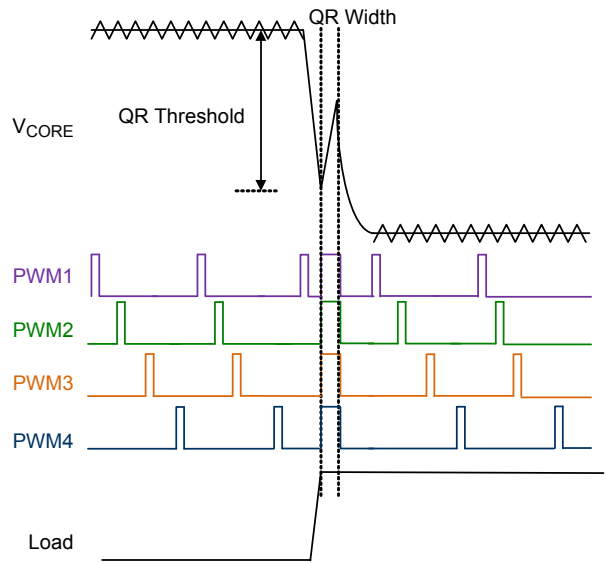
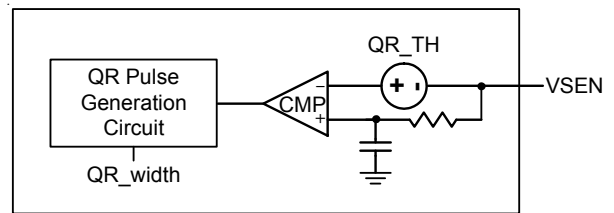

Figure 21. Quick Response Mechanism
Figure 22. Simplified QR Trigger Schematic
**Quick Response (QR) Mechanism**
When the transient load step-up becomes quite large, it is difficult for loop response to meet the energy transfer. Hence, that output voltage generate undershoot to fail specification. The RT3607CE has Quick Response (QR) mechanism being able to improve this issue. It adopts a nonlinear control mechanism which can disable interleaving function and simultaneously turn on all UGATE one pulse at instantaneous step-up transient load to restrain the output voltage drooping. Figure 21 shows the QR behavior.
The output voltage signal behavior needs to be detected so that QR mechanism can be triggered. The output voltage signal is via a remote sense line to connect at the VSEN pin which is shown in Figure 22. The QR mechanism needs to set QR width and QR threshold. Both definitions are shown in Figure 21. A proper QR mechanism set can meet different applications. The SET2 can set QR threshold and QR width by internal current source 80μA with multi-function pin setting mechanism.